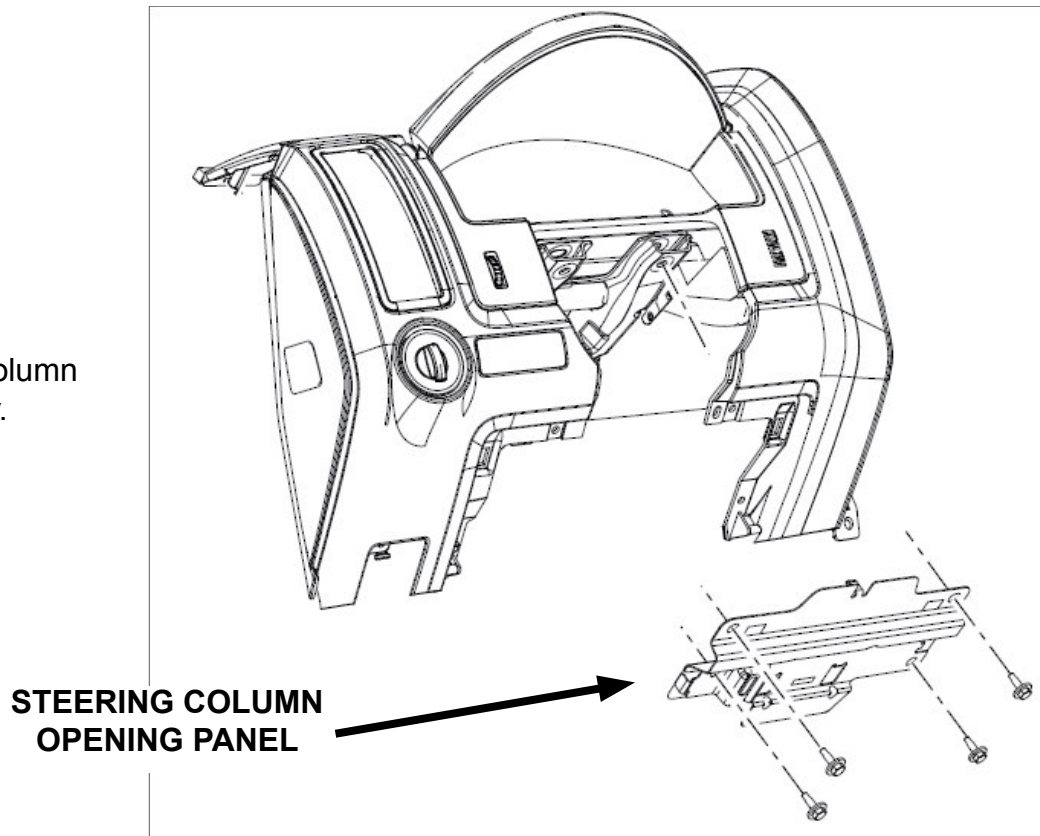

FIGURE 3
39. Install the four bolts and the steering column opening panel. See Figure 3.